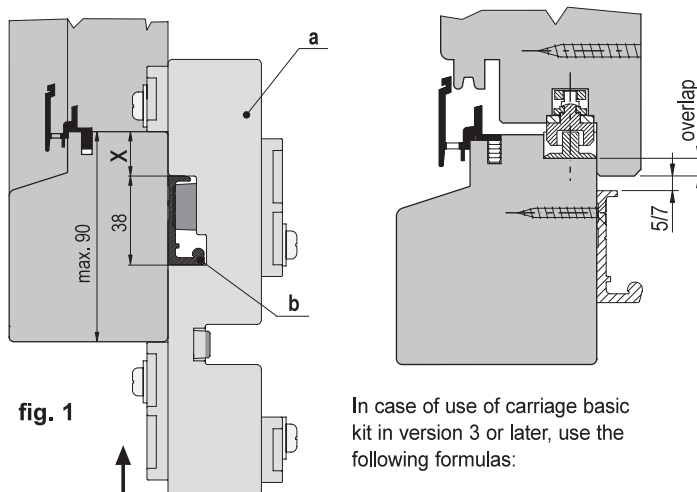

fig. 1
- 1) Adjust the jigs, art. M02030.00.04 (a), according to the X measure, with reference to the internal rebate (fig. 1); place to lower block on the frame and secure it.